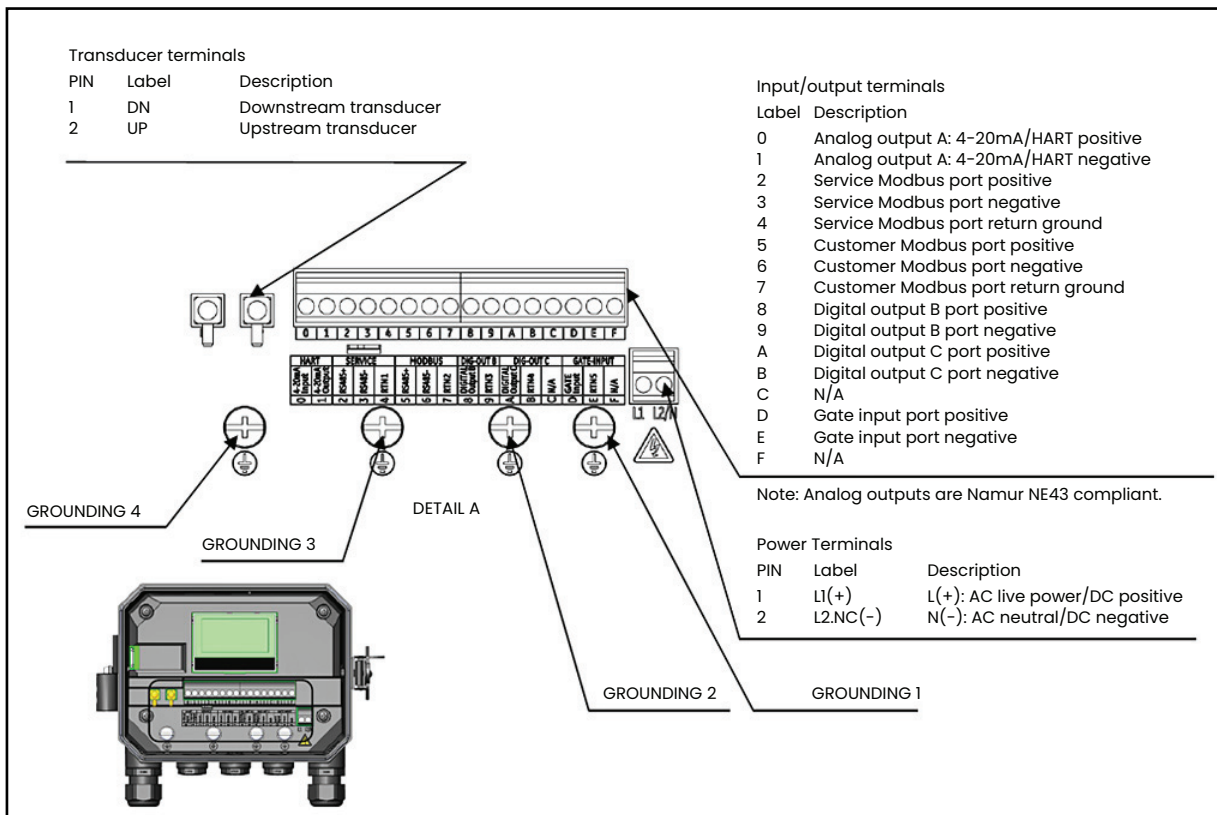
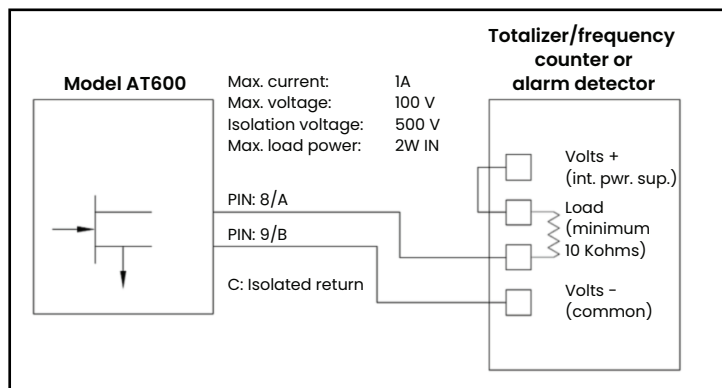
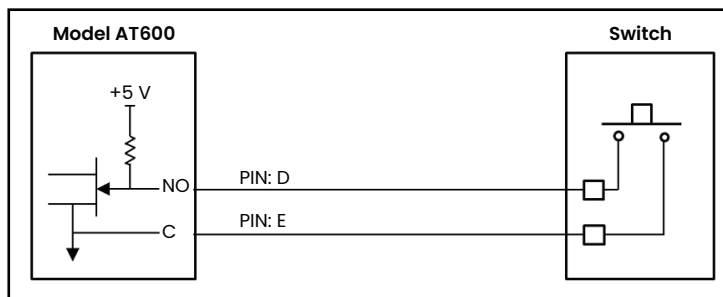

Figure 23: Wiring diagram
Figure 28: Totalizer/frequency/alarm output wiring
Figure 29: Gate input wiring
2. Connect the power and transducer cables to the AT600, as shown in Figure 23 on page 19
This section includes instructions for making all the necessary electrical connections to the AT600 flow meter. Refer to figure 23 below for the complete wiring diagram of the meter.
Refer to Figure 23 on page 19 to locate the terminal block and connect the line power as follows:
2. Connect the ground lead to the internal ground connection (GROUNDING 1) located on the bottom panel of the electronics enclosure (See Figure 23 on page 19).
3. Connect the neutral AC lead (or the negative - DC lead) to L2/N(-) and the AC line lead (or the positive DC lead) to L1(+), as shown in Figure 23 on page 19.
2. Connect the cable connector with yellow DN jacket on the cable to the DN terminal, and connect cable connector with white UP jacket on the cable to the UP terminal, as shown in Figure 23 on page 19.
3. Refer to Figure 23 on page 19 for the location of terminal block I/O, and wire the terminal block as shown above.
To wire the Modbus RS485 serial port, refer to Figure 23 on page 19 above and complete the following steps:
The AT600 can accommodate up to two digital outputs. Each of these outputs can be configured as either a totalizer, frequency or alarm output (see “Programming digital communications” on page 53 for instructions). Each totalizer/frequency/alarm output requires a twisted pair cable. Wire the terminal block as shown in figure 23 on page 23 and figure 28 below.
To wire the Gate input, refer to Figure 23 on page 19 and figure 29 below and complete the following steps: